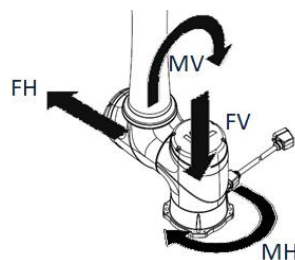

Figure 12: Description of TM Robot's moments and directions
2. Depending on the model type, the robot generates different levels of reaction force at different conditions to the mounting surface and screws. Please refer to **Figure 12** and **Table 6** to design a mounting surface tailored to the operation of your robot.